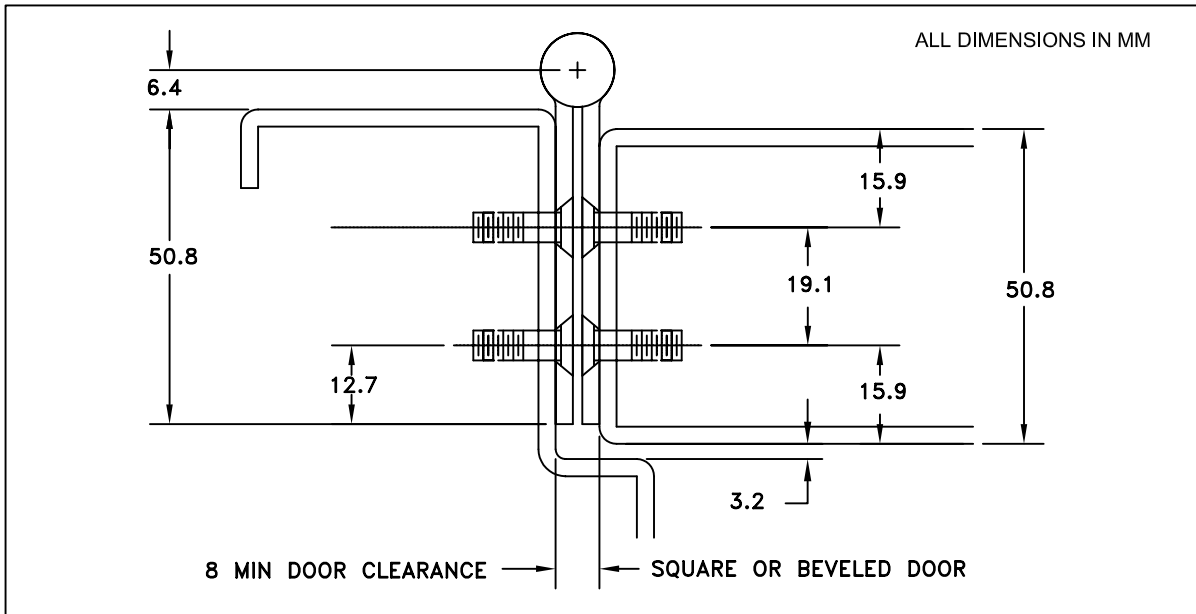

Figure 1: Hinge Placement & Clearance Template
- 2) Place hinge on frame as shown in fig 1; allow 3.2mm between top of hinge and underside of header